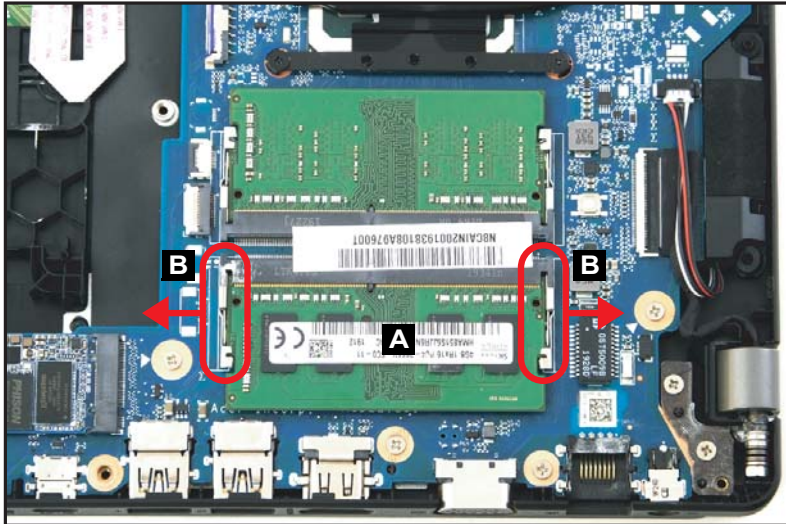

Figure 1-15. DIMM Module Removal
1. Find the DIMM module (A) in the system (Figure 1-15).
2. Push the DIMM module clips (B) outwards (Figure 1-15).